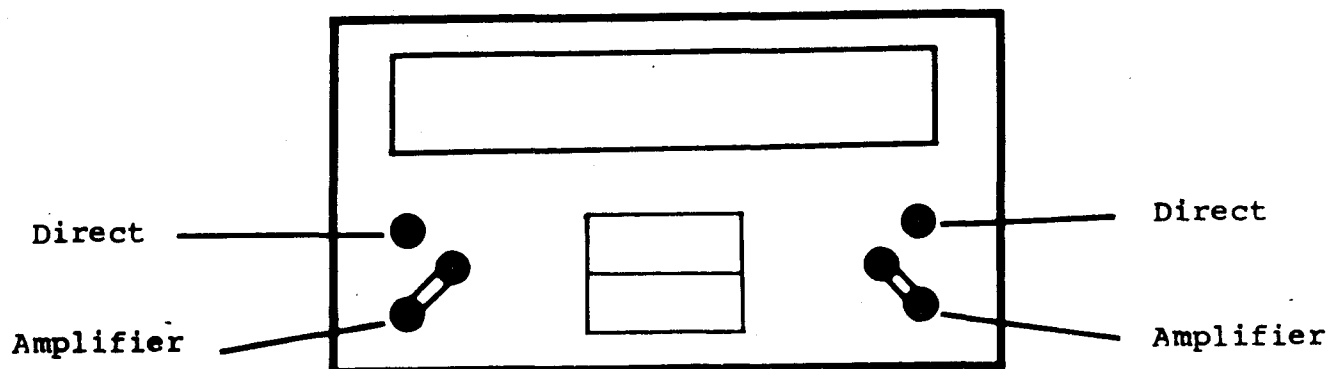

Figure 2-3 Rear Panel View of Type 304-A
* Refer to Figure 2-1 for identification of front-panel controls. ** See Figure 2-3 for identification of deflection-plate input terminals.
(2) DRIVEN SWEEP
Figure 2-3 shows the location and identification of the terminals provided for making direct connection to the deflection plates. To make connections, follow the instructions given on the terminal board. It will be necessary to move the jumpers from the "through amplifier" position to the "deflection plates" position as indicated and to connect the signal to be observed to the appropriate UP, DOWN, LEFT or RIGHT terminals. The designations, UP, DOWN, LEFT and RIGHT denote for each terminal the direction of deflection resulting from the application thereto of a positive-going signal.